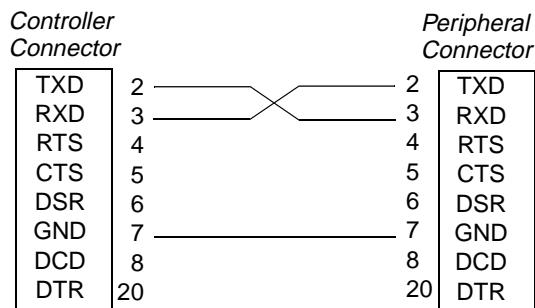

FIGURE 7. Asynchronous Null Modem Cable (XON/XOFF Handshaking)
- XON/XOFF supports software flow control only, with its three-wire configuration for XON/XOFF handshaking (see Figure 7).